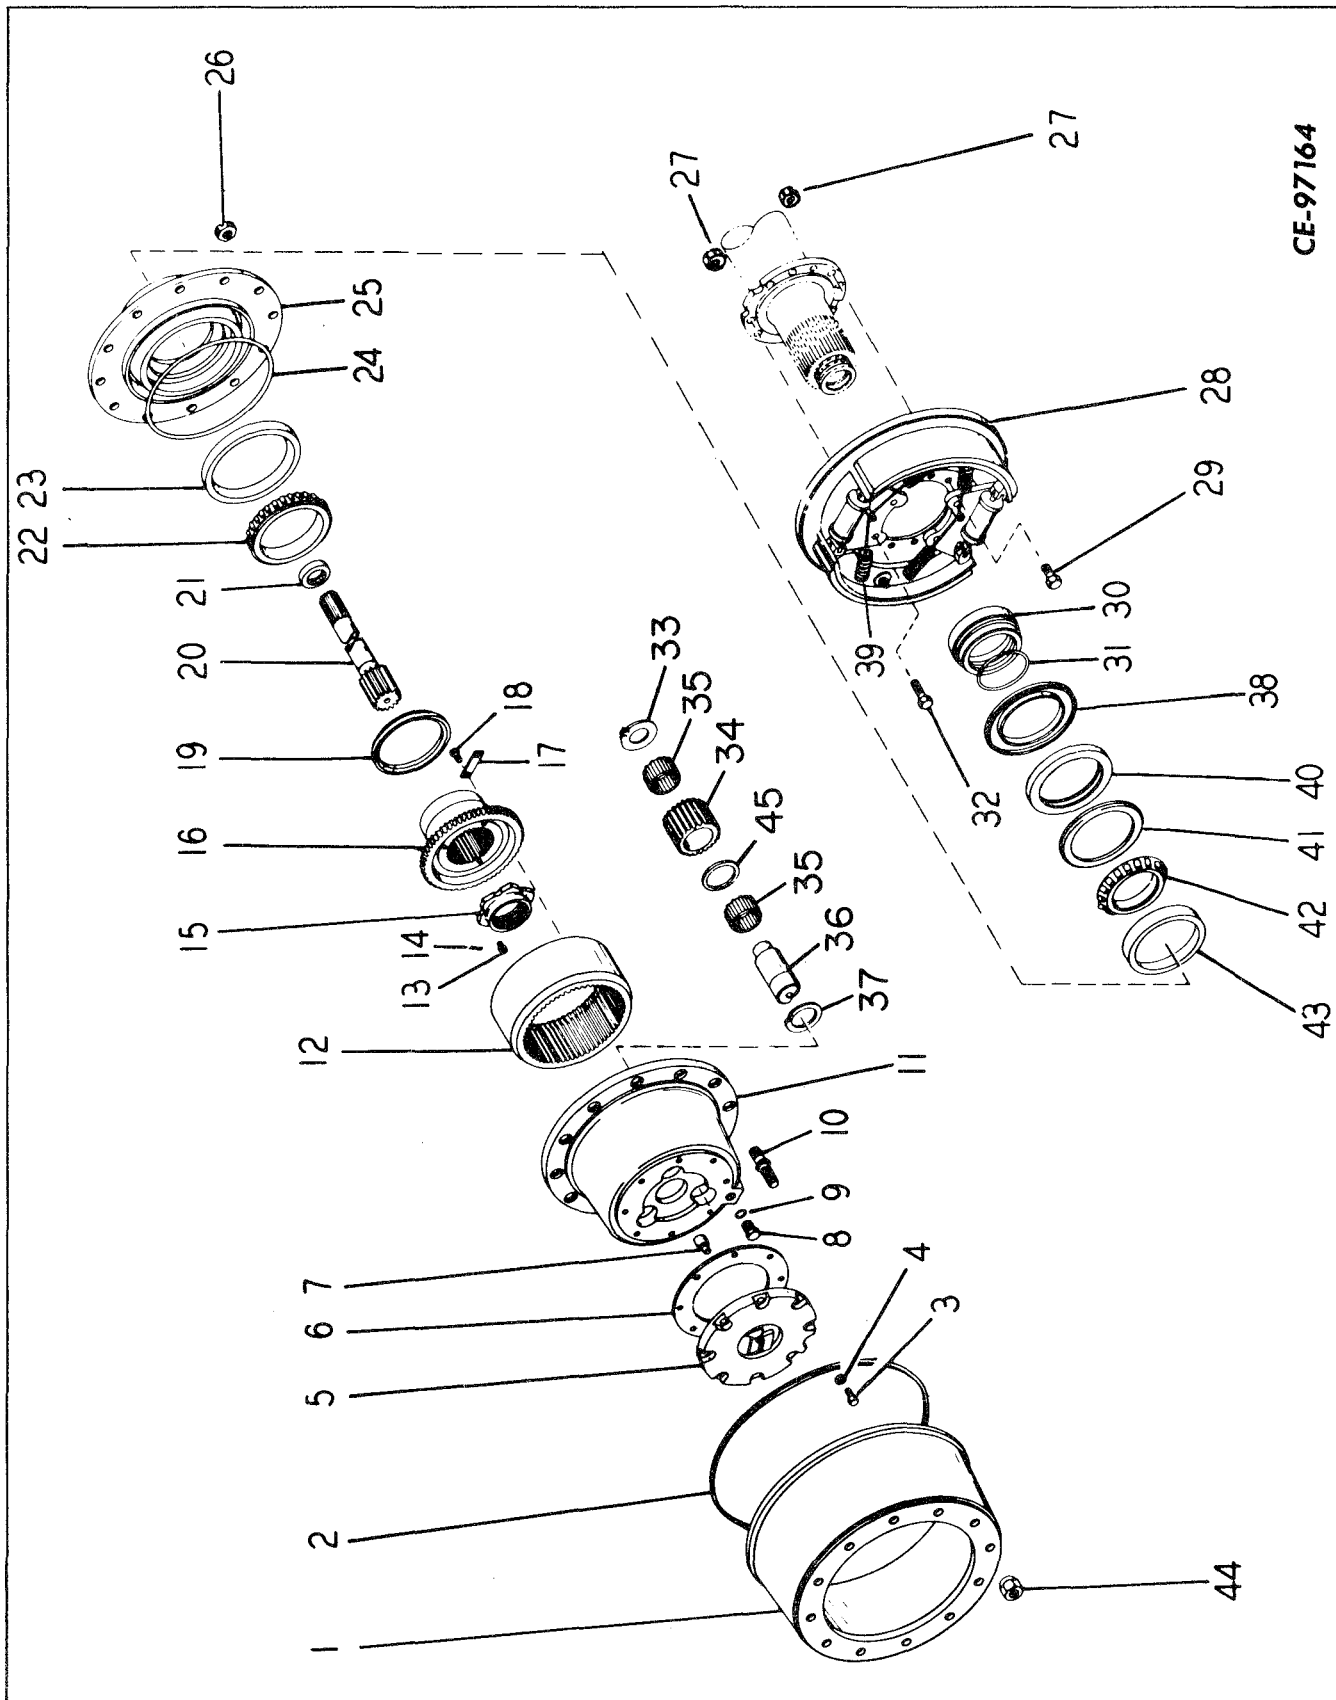

Figure 6-1
Legend for Figure 6-1
Drain the planetary hubs by rotating them until the drain/filler plugs (8, Fig. 6-1) are at the bottom. Remove the plugs and "O" rings (9) and drain the lubricant.
Remove brake drum (1, Fig. 6-1) from axle assembly using a suitable sling and hoist.
Remove cap screws (3, Fig. 6-1) and sealing washers (4) that secure planetary cover (5) to carrier assembly (11).
Inspect thrust button (7, Fig. 6-1) in planetary cover. Replace if worn.
Thread axle removal tool (refer to "SPECIAL TOOLS") in tapped pilot hole or axle shaft (20, Fig. 6-1). Remove shaft from housing.
Remove studs (10, Fig. 6-1) and nuts (26) that secure planetary carrier to hub.
Remove planetary carrier assembly (11, Fig. 6-1) using a suitable sling and hoist.
Remove cotter pin (14, Fig. 6-1) and cap screw (13) that lock bearing adjusting nut (15) in position. Remove adjusting nut. Slide ring gear and hub assembly (12, 16) from axle housing splines. Refer to "PLANETARY DISASSEMBLY AND ASSEMBLY" for ring gear and hub overhaul.
Remove wheel hub assembly (25, Fig. 6-1) from axle housing. Remove and discard "O" ring (24). Refer to "PLANETARY DISASSEMBLY AND ASSEMBLY" for wheel hub overhaul.
Remove brake shoe return springs (39, Fig. 6-1). Carefully slide off oil scavenger (38) and seal retainer (30) assembly.
Remove and discard "O" ring seal (31, Fig. 6-1) from inner bore of retainer (30). Do not
Remove and discard axle shaft seal (21, Fig. 6-1) from inner bore of spindle.
If removal of brake assembly (28, Fig. 6-1) is required, refer to "SECTION XIII, BRAKE SYSTEM."
Coat a new axle seal (21, Fig. 6-1) with Mar-Seal or equivalent sealant and install in axle housing bore. Be sure seal bottoms squarely on shoulder of bore.